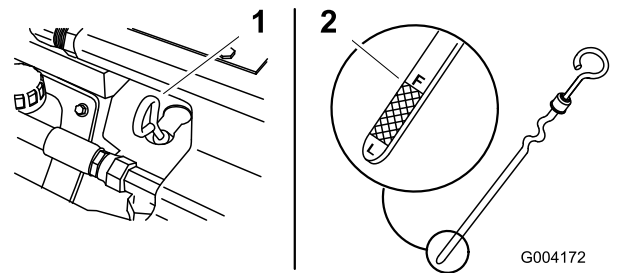

Figure 40
4. Clean the area around the oil dipstick (Figure 40).
5. Pull out the dipstick and wipe the metal end clean (Figure 40).
6. Slide the dipstick fully into the dipstick tube (Figure 40).